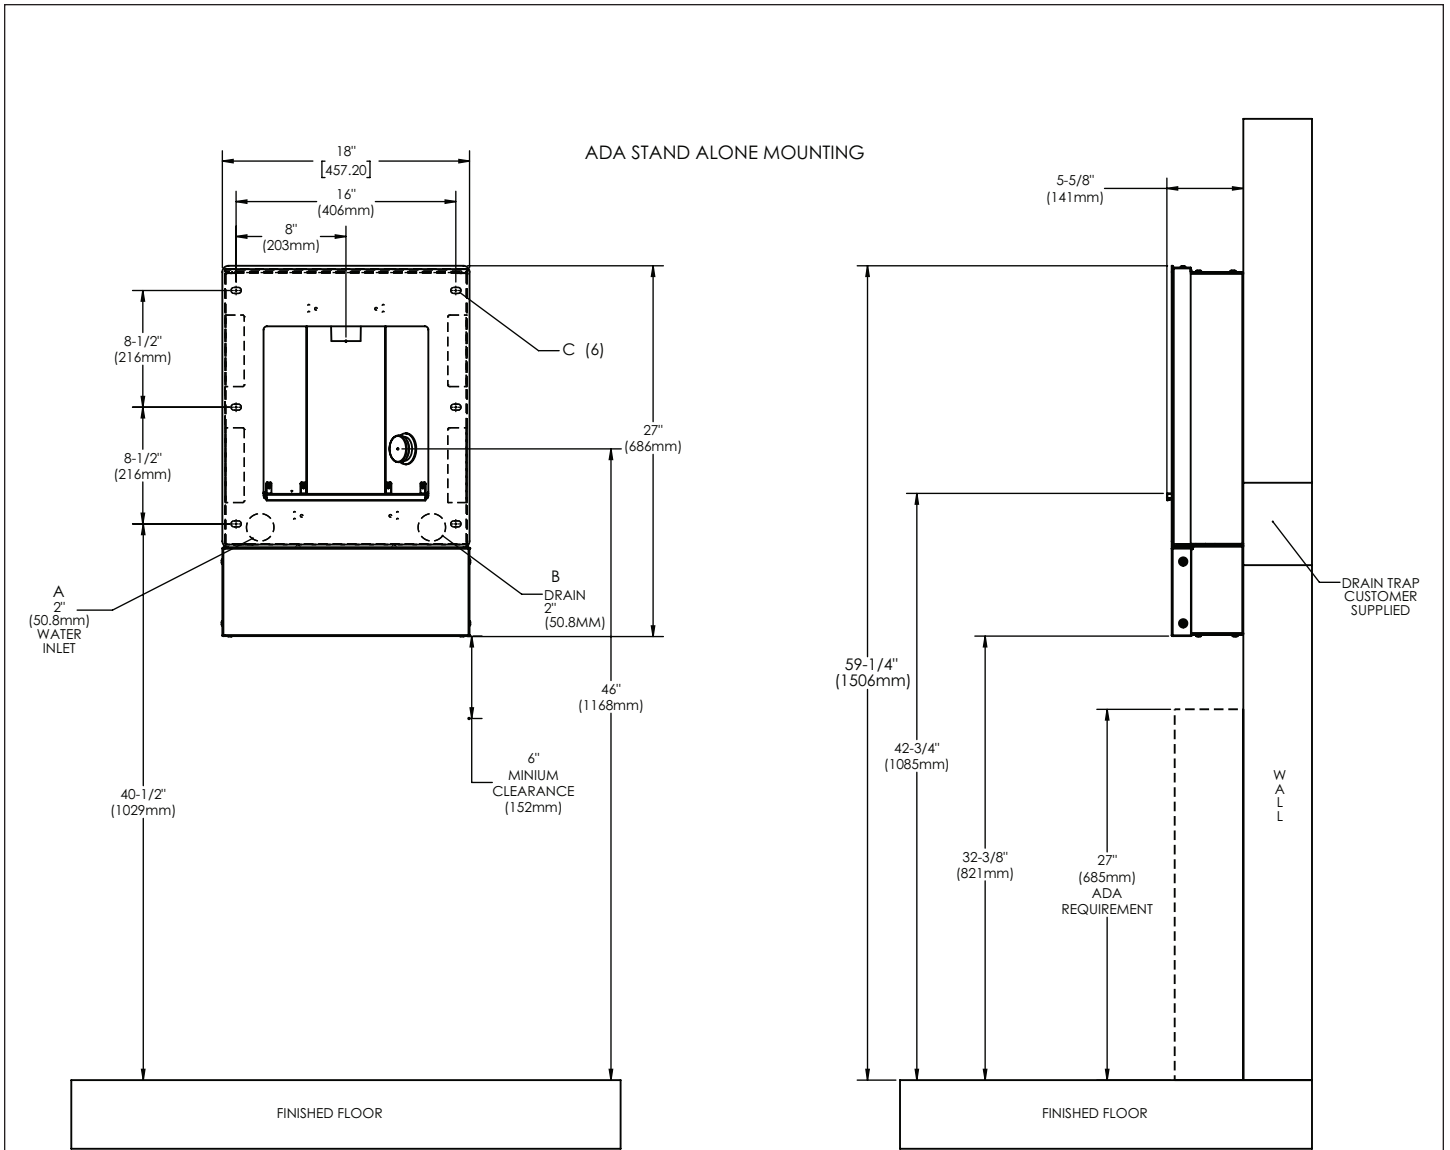

Figure 1 - Rough-in Dimensions
2. Locate the unit against the wall as specified in the Rough-in (Fig. 1.)
4. Mark the six(6) mounting holes, waterline and drain hole with a pencil. Drill six (6) mounting holes and 2" hole for waterline and drain hole in the wall as per the markings.
6. Fasten unit to structurally secure wall through six(6) 7/16" obround holes with fasteners appropriate for wall type.